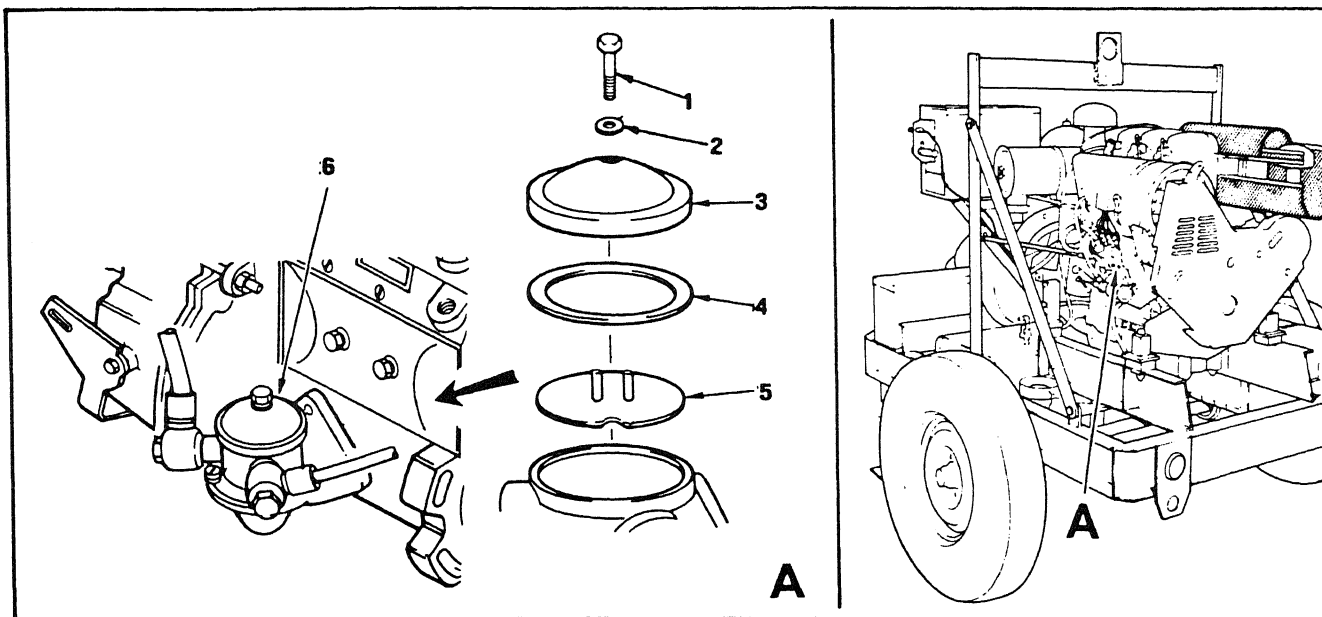

Figure 4-28. Servicing Fuel Feed Pump
- a. Servicing (figure 4-28). The strainer located within the fuel feed pump requires cleaning after every 100 hours of operation.
- (1) Removal. To clean strainer it must be removed from fuel pump as follows:
- (a) Remove screw (1), washer (2), cover (3) and gasket (4).
- (b) Remove strainer (5) from pump (6).
- (c) Using clean fuel, thoroughly clean strainer (5).
- (2) Installation. Install cleaned strainer as follows:
- (a) Position strainer (5) to fuel pump (6).
- (b) Put gasket (4) into place and install cover (3).
- (c) Install washer (2), screw (1) and ensure tightness.